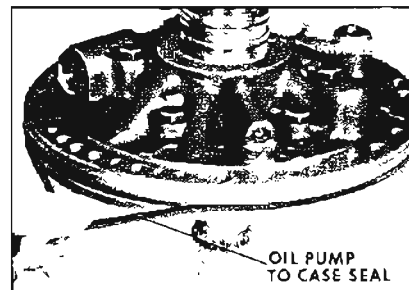

Figure 5-184
3. Remove oil pump to case seal and discard. See Figure 5-184.